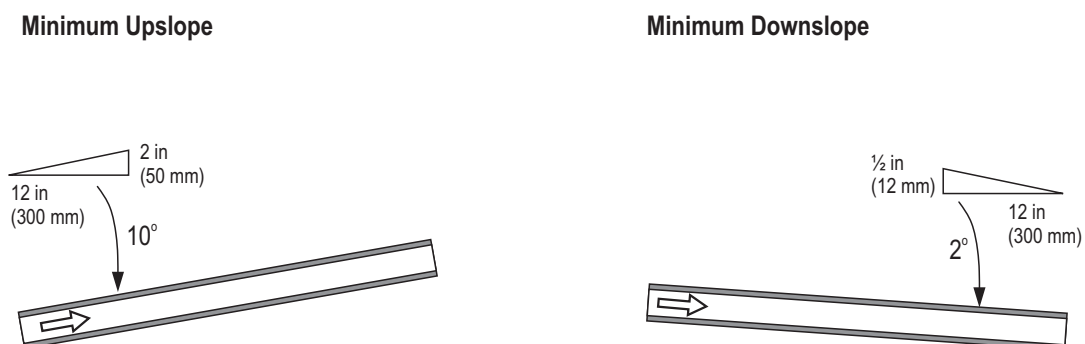

Figure 20: Steam Line Slope
- ☐ The steam line must have a constant minimum upslope of 10°, or a constant minimum downslope of 2°, as shown in Figure 20.